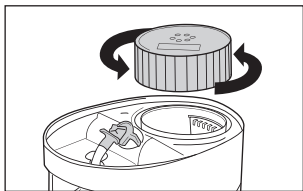

Fig. 2
3. Open the water heater tank by turning the cover counter-clockwise, Fig. 2.